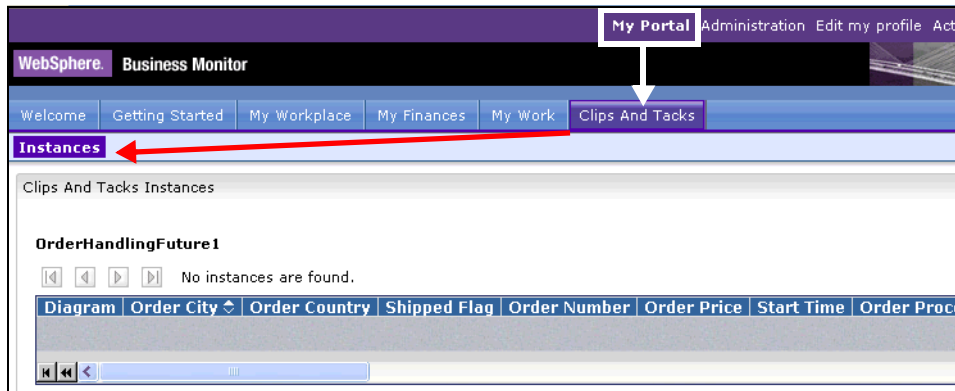

Figure 14-67 Clips And Tacks Instances page
- ▶ Select the *Clips And Tacks* page, then click *Instances* to verify that the instances view has been added (Figure 14-67).